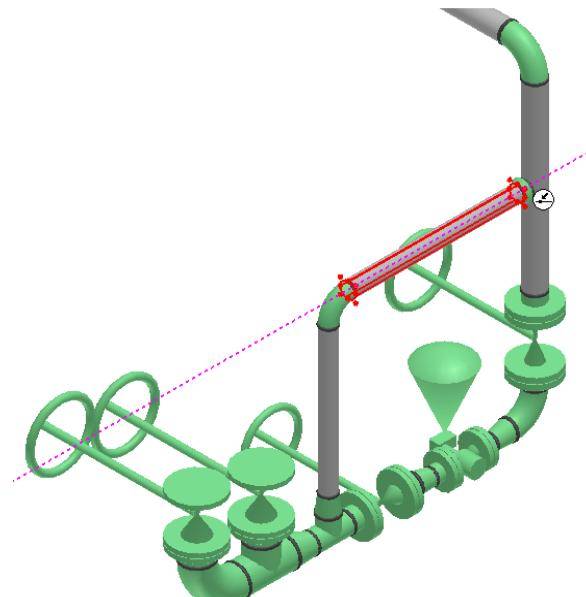

Figure 3.101: End of the By Pass Line
60. Specify the end of the by pass line by using the SmartSketch options of SP3D, as shown in Figure 3.101.